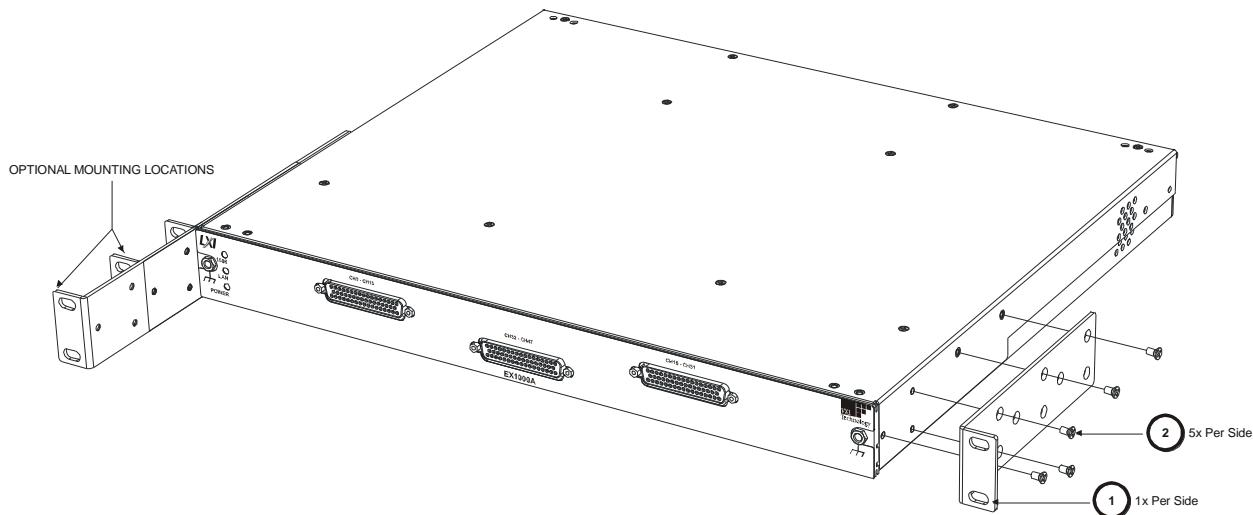

FIGURE 2-2: RACK EAR INSTALLATION DIAGRAM
- 2) Using a #2 Phillips screwdriver, install the rack ears (P/N: 41-0482-009) on the front of the EX10xxA using five (5) 6-32 x 3/8" flat head Phillips stainless steel screws (P/N: 37-0173-037) for each rack ear. Note that the "Optional Mounting Locations" in Figure 2-2 allow the EX10xxA to be installed in a rack either flush or recessed.